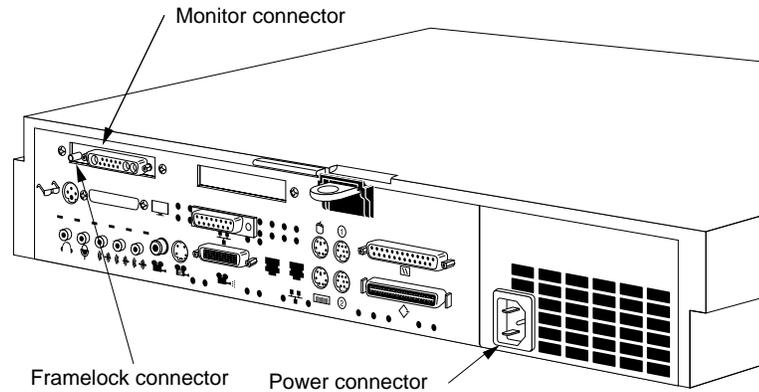

Figure 2-13 Connecting the Exterior Cables to the Indy Workstation
4. Connect the power cable, monitor cable, and any other cables you removed earlier, as shown in Figure 2-13.